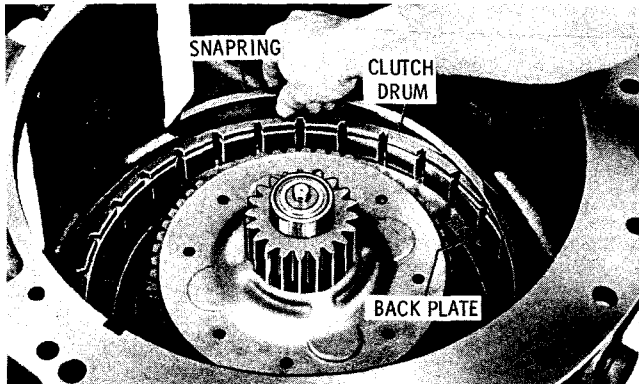

Fig. 7-8. Removing high-range clutch snapping and back plate S1655
(8) Remove the large high-range clutch drum snapping from the clutch drum. Remove the clutch back plate (fig. 7-8).